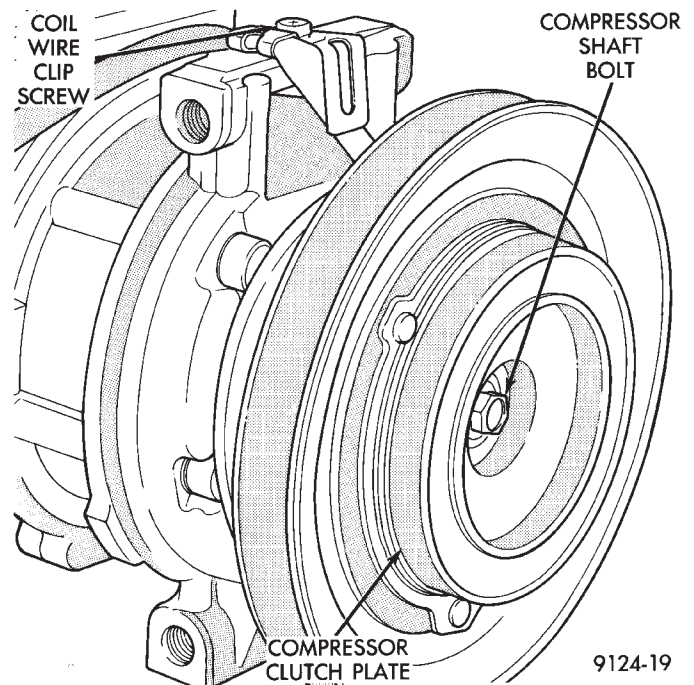

Fig. 2 Compressor Shaft Bolt and Clutch Plate
- (1) Remove the compressor shaft bolt (Fig. 2). A band type oil filter removal tool can be placed around the clutch plate to aid in bolt removal.